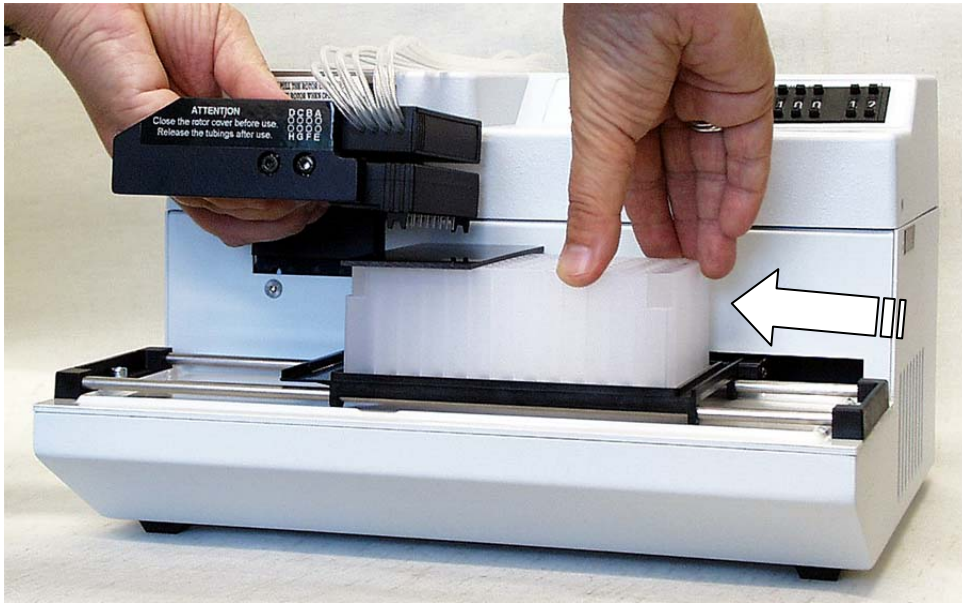
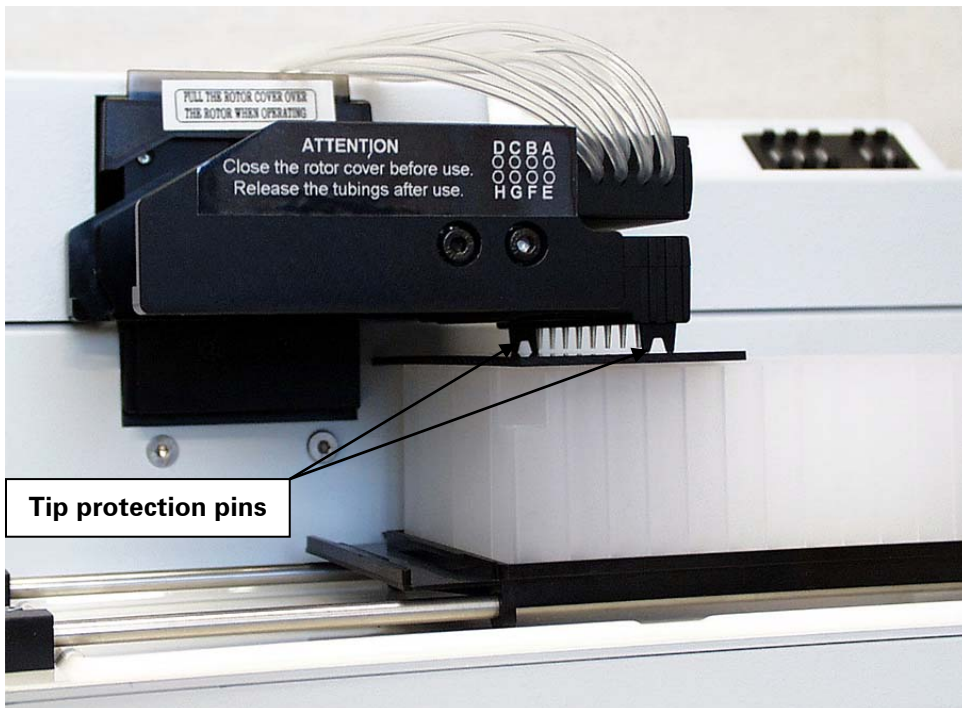

Fig. 6.20 Moving the deep-well plate under the dispensing cassette
Fig. 6.21 Tip protection pins resting on the adjustment plate
- Lift the pump rotor and manually move the deep-well plate and the adjustment plate carefully under the dispensing cassette (Fig. 6.20), so that the tip protection pins rest on the adjustment plate (Fig. 6.21).
The adjustment plate corresponds to the distance with which the tips and deep-well plate must be separated. The tip protection pins rest on top of the adjustment plate when the distance is correct. There is only an extremely narrow gap between the tips and the adjustment plate (Fig. 6.21).
- When the pump rotor height has been adjusted, tighten the adjustment screws (*Fig. 6.22*). Ensure that the pump rotor height is correct by placing the deep-well plate and the adjustment plate again under the dispensing cassette (*Fig. 6.21*).